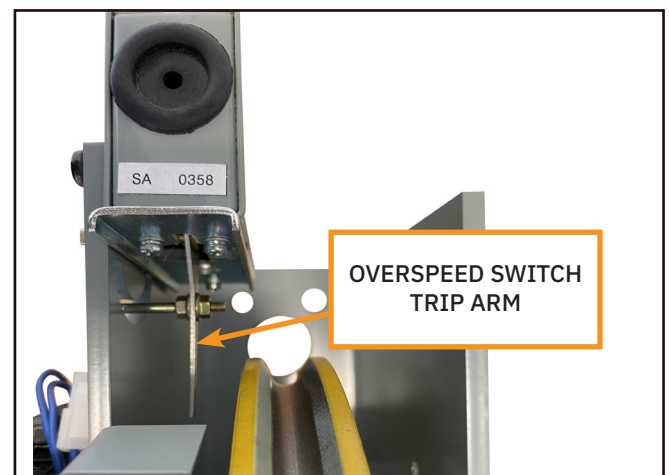

Figure 3
- Reset the overspeed switch by moving manually the trip arm to horizontal position (see figure 3).